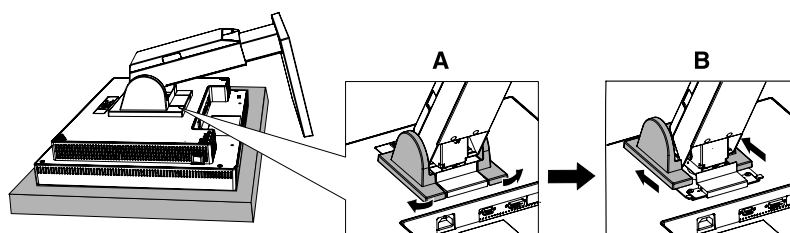

Figure S.3
3. Remove two pieces of plastic parts. Use your fingers to push them a little bit away from the stand (A). Then push them to the top direction (B) (**Figure S.3**).